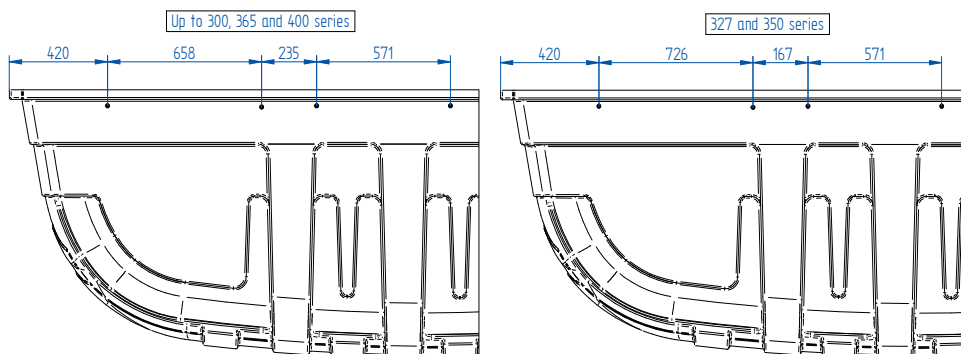

Figure 3
**NB!** Check the grommet placement with dimensions shown on **figure 3.**